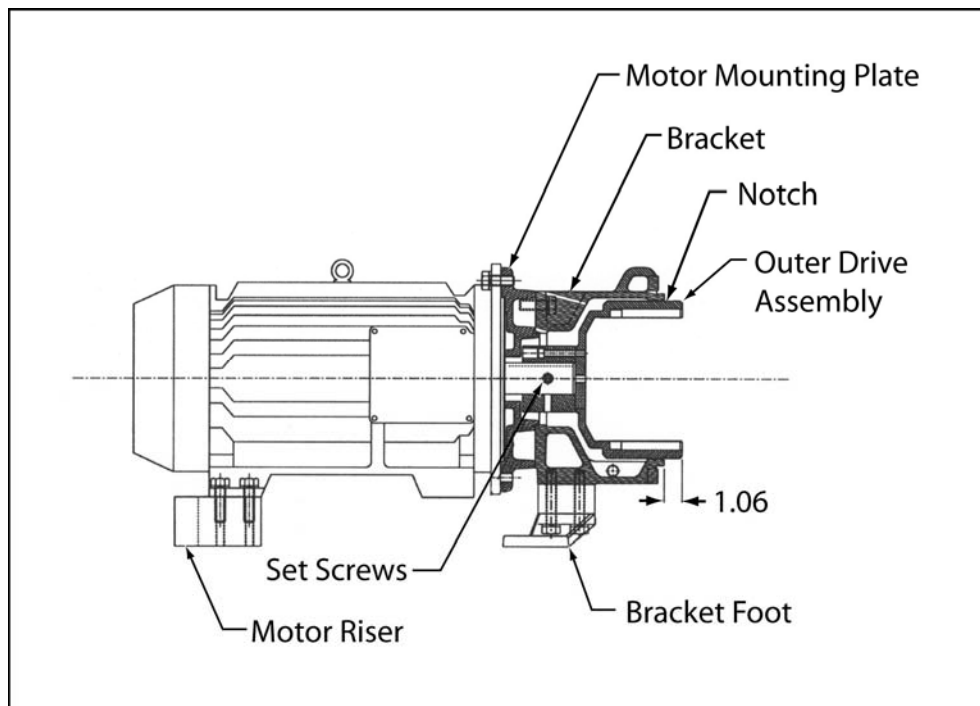
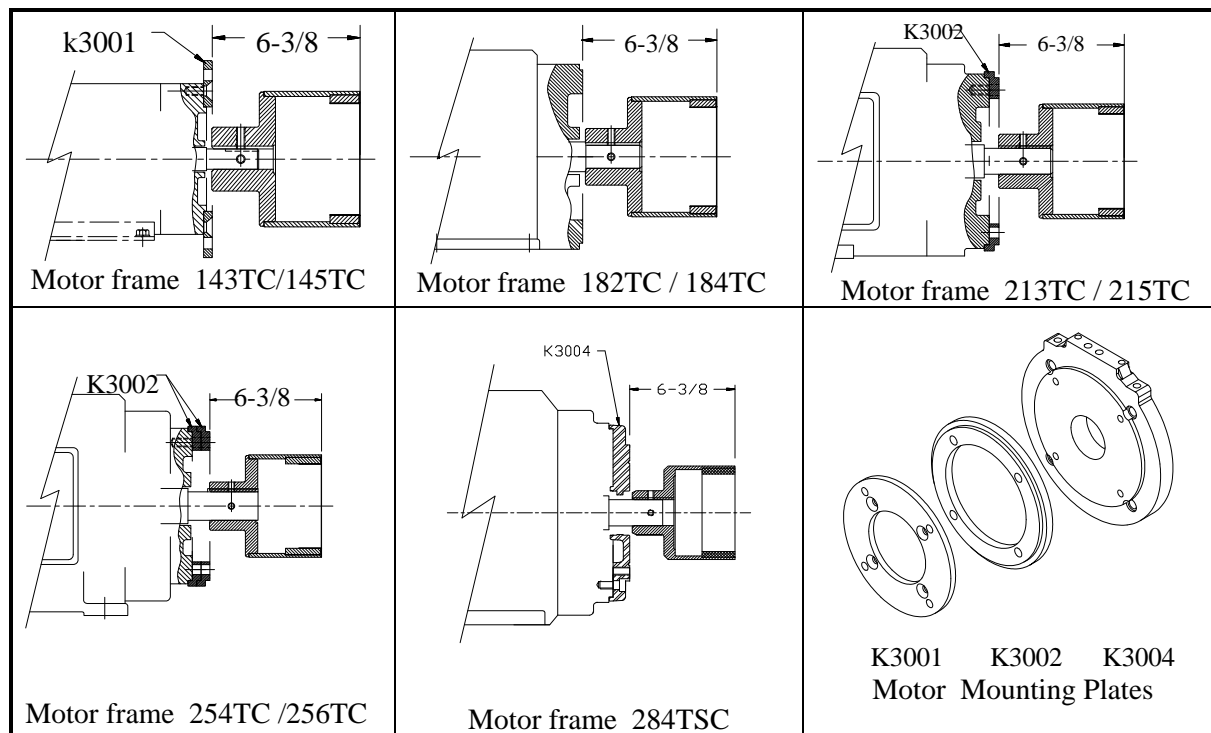
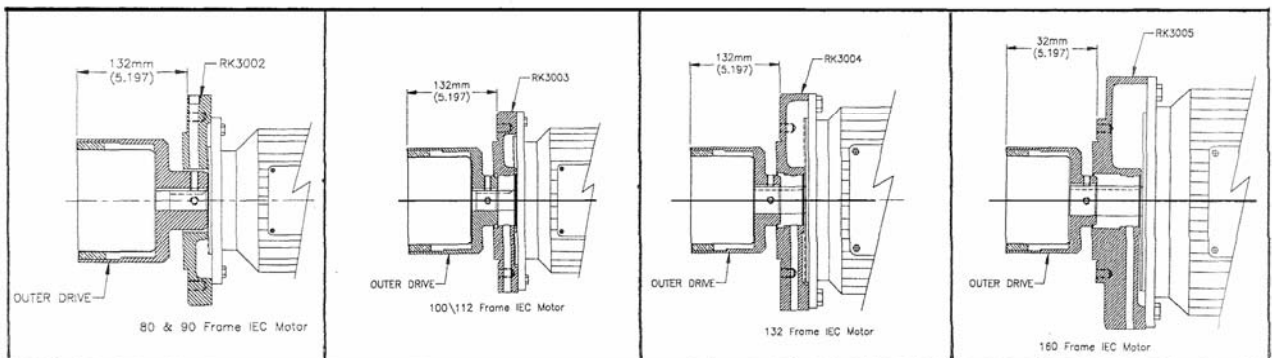

Fig. 9-1 Outer Drive Position with Respect to Bracket
Fig. 9-2: NEMA Outer Drive Mounting Positions (Reference)
Fig. 10-1: IEC Outer Drive Mounting Positions (Reference)
2. Place motor mounting plate(s), if required, onto the C-face of motor. Align the holes with the threaded holes on the motor. (On motor frames 143/145TC and 284TSC, the motor mounting plates bolt to the motor face holes.) See figure 9-1.
4. Back-out the two set screws on the hub of the outer drive magnet, and place the outer drive onto the motor shaft. Position the outer drive so that the groove in the outer drive lines up with the end of the bracket $+1/16"$, $-0"$ [$+1.6$ mm, -0 mm]. See Figure 9-1. Figure 9-2 shows the outer drive position with respect to the motor mounting plate for reference. Tighten the set screws to 10 ft-lb (13.6 N-m.) Install the 3/8" NPT pipe plug into the hole on top of the bracket or bearing frame. This is to keep dirt out of the motor shaft area.
2. Place the motor mounting plate on the motor flange. The motor mounting plate for 80 and 90 frame motors has the rectangular boss facing upwards. For the 100/112, 132 and 160 frame motors have the rectangular boss facing downwards. Bolt the motor mounting plate to the motor flange with the appropriate four bolts. See figure 10-1.
4. Back out both of the set screws on the outer drive hub so they do not protrude into the bore. Slide the outer drive onto the motor shaft making sure that the shaft key is in place. Position the outer drive so that the groove in the outer drive lines up with the end of the bracket +1/16", -0" (+1.6mm, -0mm.) Tighten the two set screws to 10 ft-lb (13.6 N-m.) See Figure 9-1. Figure 10-1 shows the outer drive position with respect to the motor mounting plate for reference. Install the 3/8" NPT pipe plug into the hole on top of the adapter plate. This is to keep dirt out of the motor shaft area.